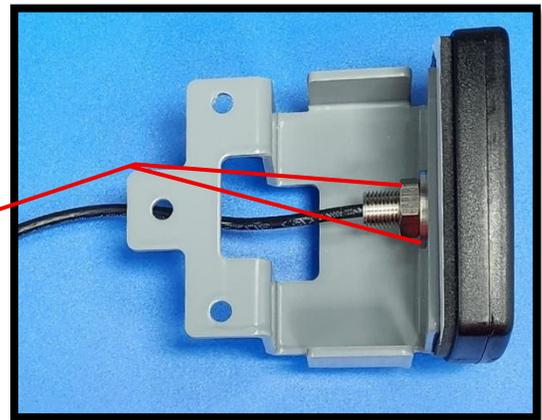

Figure 4: Remove Old Antenna
4. Remove the metal nut and washer from the cable by using a 14mm wrench. Remove the old antenna from the bracket and set it aside (Figure 4).